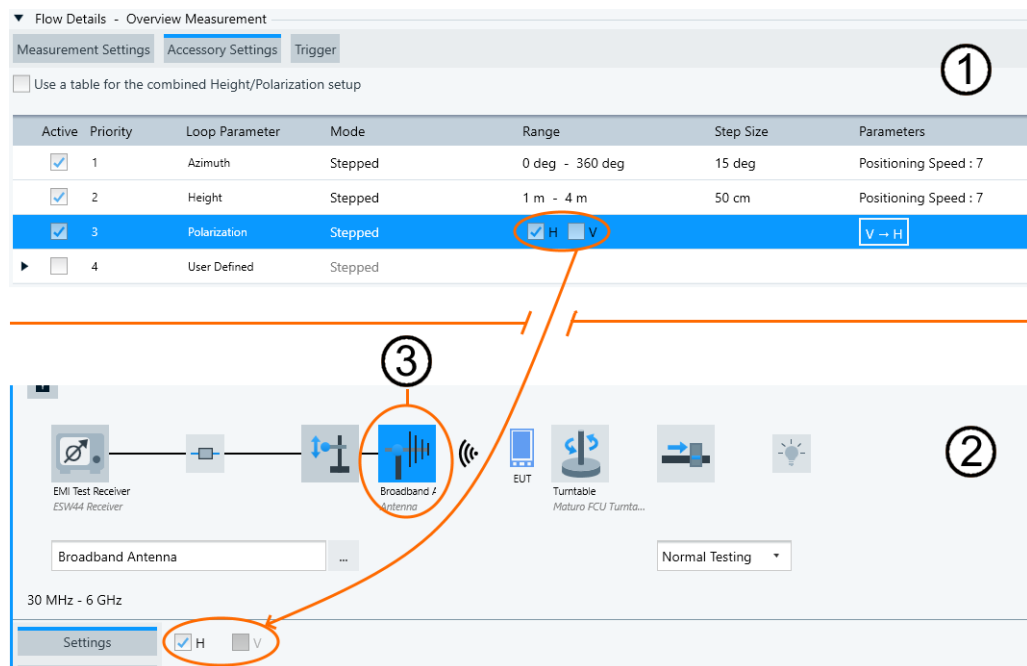

Figure 4-78: An example of an antenna with its V polarization parameter deselected
- Antenna: "H" or "V" polarization, as shown in Figure 4-78